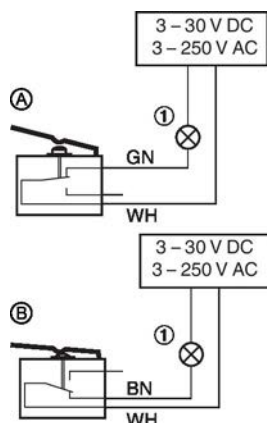

Fig. 68: Wiring of limit switches, example
- The limit switches must be connected according to the wiring example Fig. 68